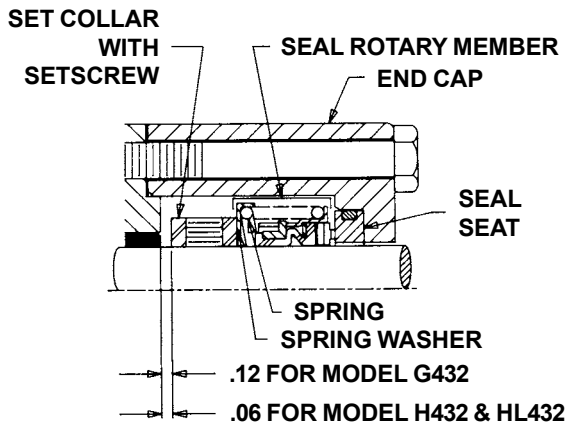

FIGURE 15 - SECTIONAL VIEW, SEAL AREA
Install the mechanical seal: Place the set-collar on the shaft and tighten setscrew. See Figure 15, page 9 for set-collar location.
- The spring washer and spring must be put on the shaft first and in that order. (See Figure 15, page 9).